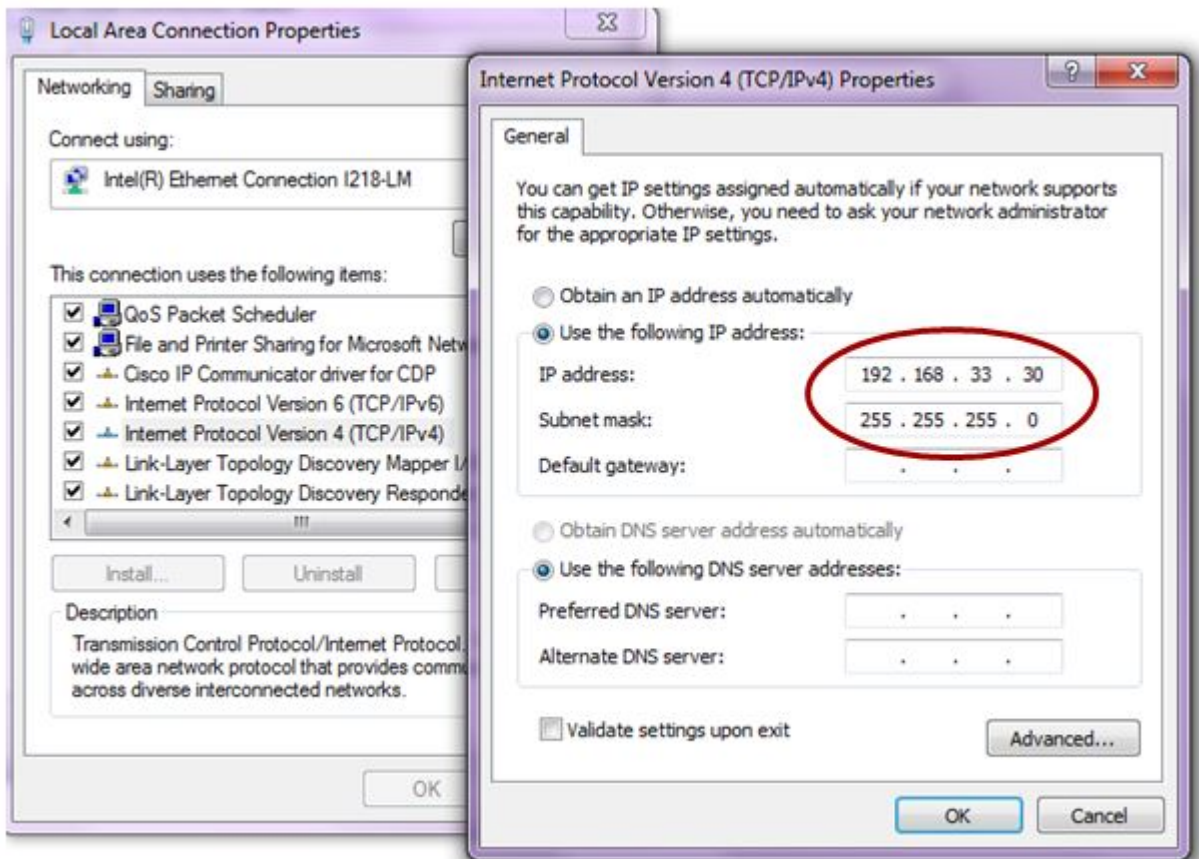

Figure 3. Configure Static IP Address on the PC
3. Select the static IP address in the PC local area network properties, as shown in Figure 3.